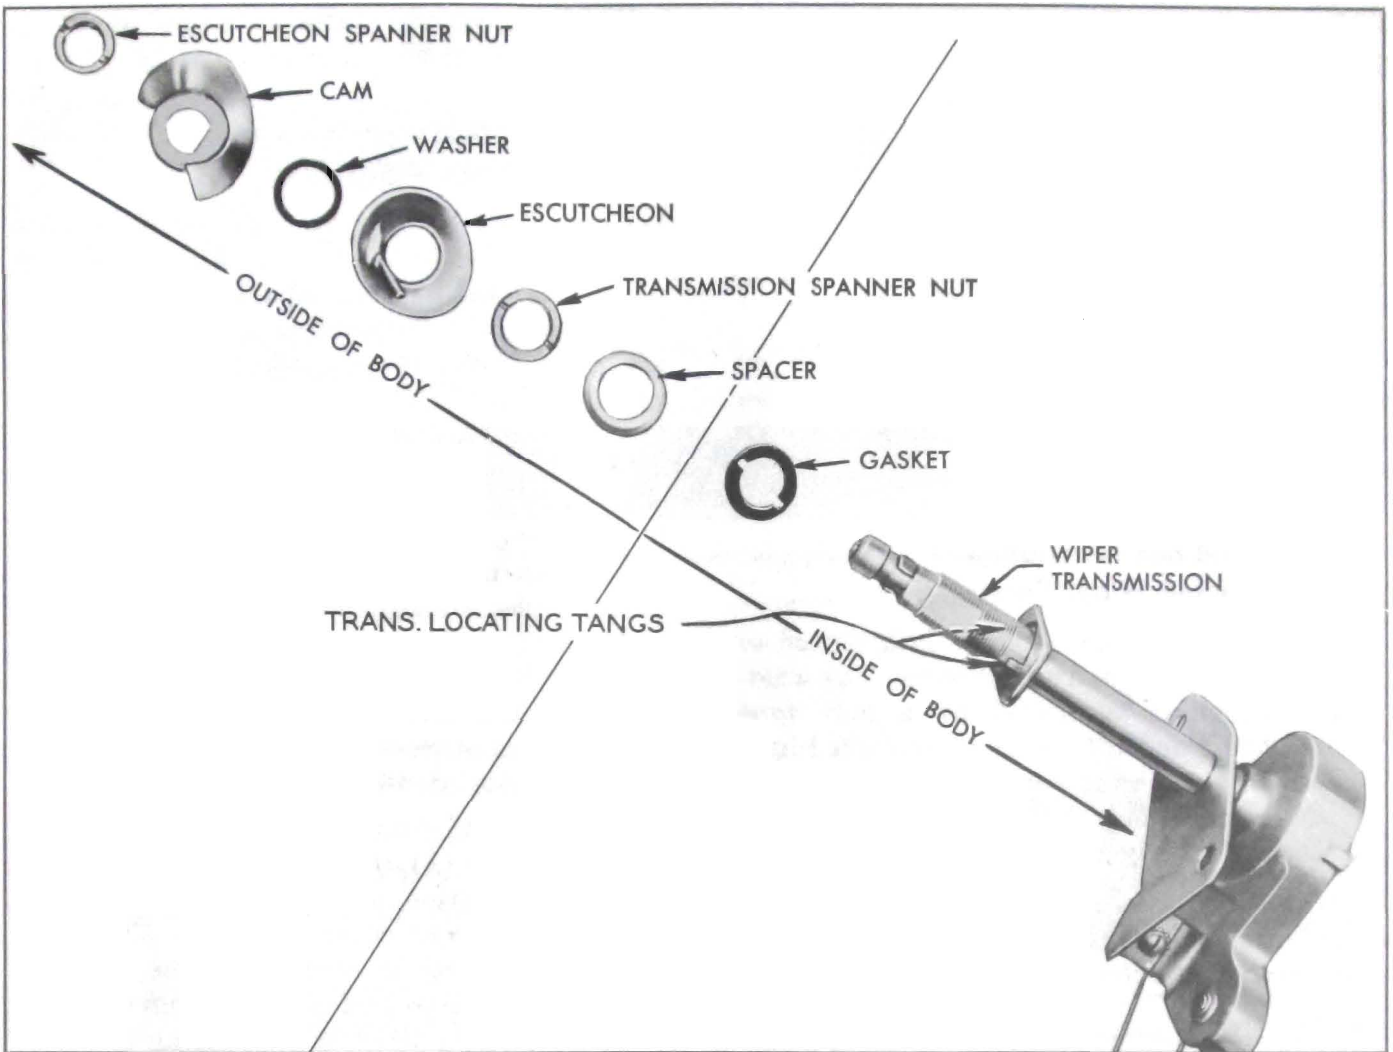

Figure 13-16—Windshield Wiper Transmission Component Parts
1. If necessary replace gasket and arrange transmission component parts for installation. See Figure 13-16.
3. Outside of body, position transmission spacer and spanner nut. Check alignment of wiper transmission and tighten spanner nut with Wrench 6592. Then, inside of body, tighten wiper transmission attaching screws. See Figure 13-16.